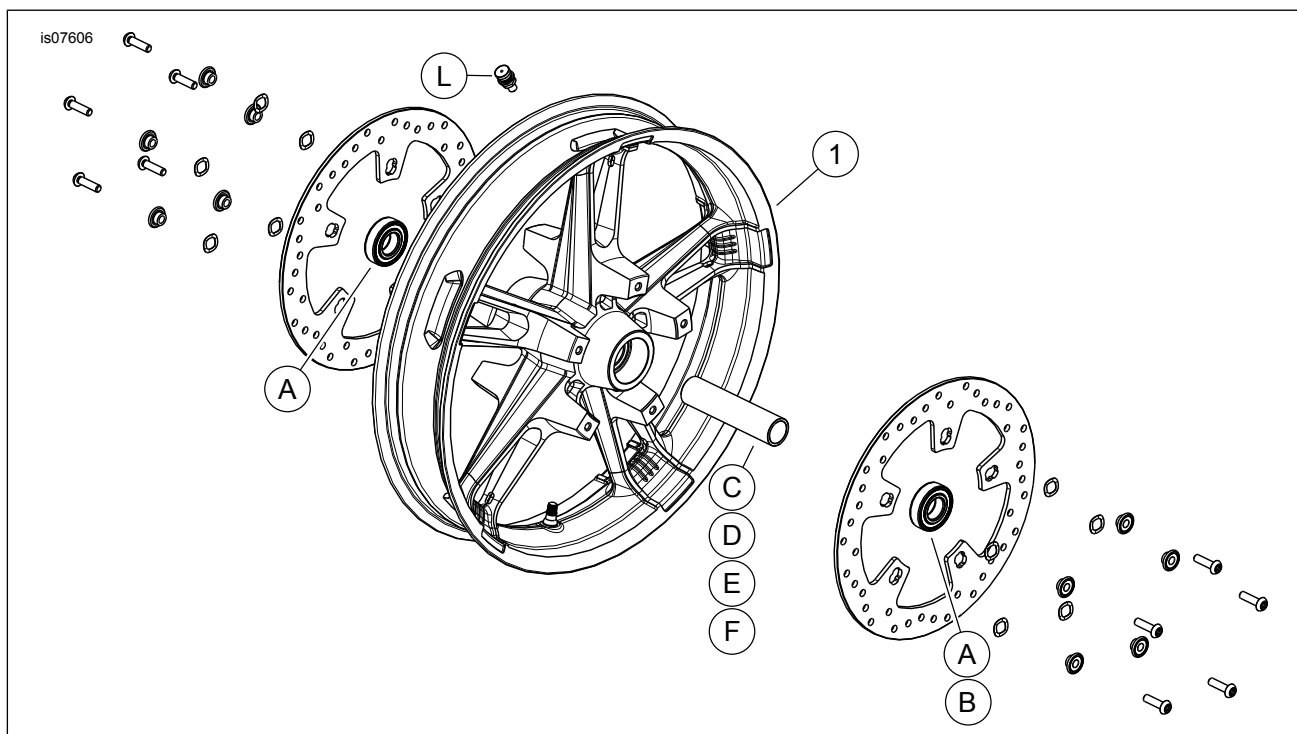

Figure 1. Service Parts: FRONT ENFORCER WHEELS, Kit 43300336 shown.
2. See Figure 1. Install valve stem assembly (N) on wheel. Refer to TIRES in service manual.